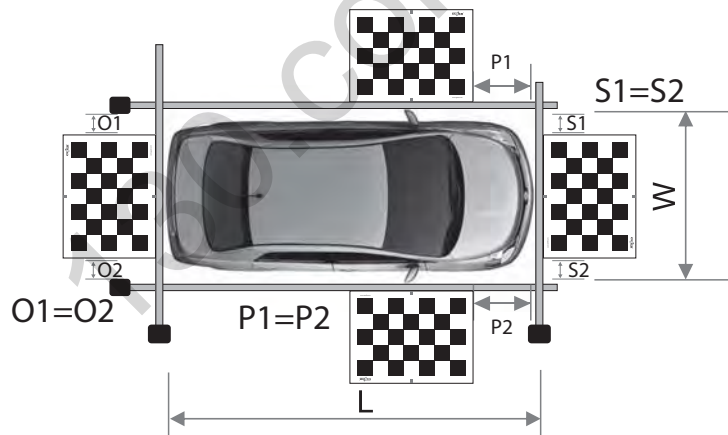

Fig. 4
1. Place calibration sheets in front of each camera as shown in the diagram below (Fig. 4). Red marks on the front and rear calibration sheets must be aligned with the car's central axis. Red marks on side calibration sheets must be aligned with the car's wing mirrors (mounting seats inside the mirrors).
2. Measure distances L, W, P1, and P2 (Fig. 4)